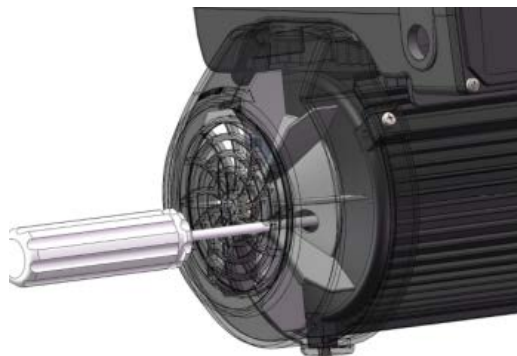

Figure 4
4. To unscrew the impeller from the shaft, insert a Phillips screwdriver into the hole of the motor fan and twist the impeller counter-clockwise. **See Figure 4.**